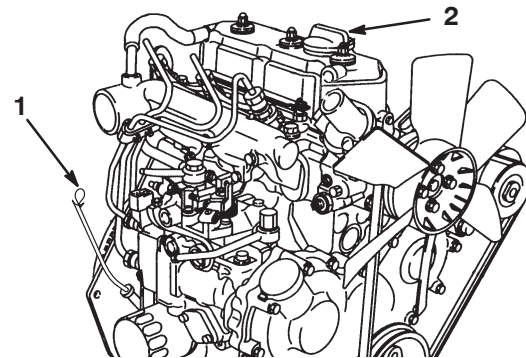

Figure 23
2. Remove the dipstick and wipe it with a clean rag (Fig. 23). Push the dipstick into the tube and make sure it is seated fully. Remove the dipstick from the tube and check the level of oil. If the oil level is low, remove the filler cap from the valve cover and **slowly** add enough oil to raise the level to the Full mark on the dipstick. Add the oil slowly and check the level often during this process. **Do not overfill.**